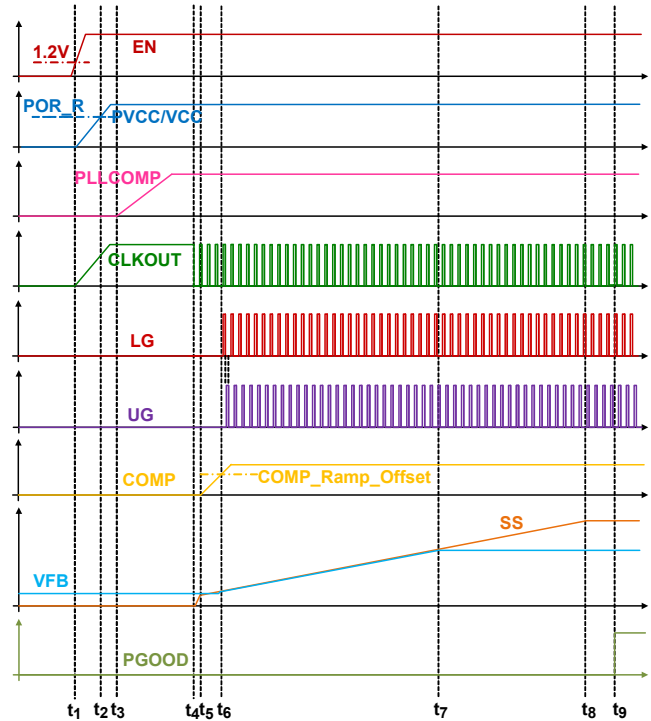

FIGURE 58. CIRCUIT INITIALIZATION AND SOFT-START
- There is no limit for the minimum voltage on the TRACK pin, but note the lower reference voltage and the lower voltage feedback regulation accuracy. Note the SS_DONE signal is checking $V_{REF_TRK} \geq 0.3V$ as one of the conditions (refer to Figure 58 on page 29 and t_g - t_d description on page 30). Also, for the boost converter, the regulated output minimum voltage is usually the input voltage minus the upper MOSFET's body diode drop, in which case, the corresponding voltage at FB voltage is the minimum effective voltage for the V_{REF_TRK} .
Prior to converter initialization, the EN pin voltage needs to be higher than its rising threshold and the $PV_{\text{CC}}/V_{\text{CC}}$ pin needs to be higher than the rising POR threshold. When these conditions are met, the controller begins initialization and soft-start. Figure 58 shows the ISL78227 internal start-up timing diagram from the power-up to soft-start.
Assuming input voltage is applied to the V_{IN} pin before t_1 and V_{CC} is connected to PV_{CC} , as shown on Figure 58, the descriptions for start-up procedure is elaborated in the following:
Diode emulation occurs during t_5 - t_8 (on Figure 58 on page 29), regardless of the DE/PHDRP operating modes (Table 2).